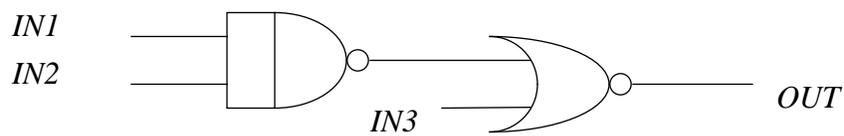

Figure 3: combinational logic circuit for Pre-Lab Exercises 1-4 and 1-5.
- (1-4) Figure 3 shows a combinational logic circuit. Determine the input-output truth table for this circuit.
- (1-5) Draw the circuit diagram for the combinational logic circuit shown in Figure 3 using the
- (1-9) Use the NOR gate and NAND gate to implement the combinational logic circuit of Figure 3, as outlined in Pre-Lab Exercise 1-5. Connect each input to a switch and resistor as in In-Lab Exercises 1-6 through 1-8. By changing its input switch settings, and measuring its output voltage with the multi-meter, demonstrate that the logic circuit functions properly.